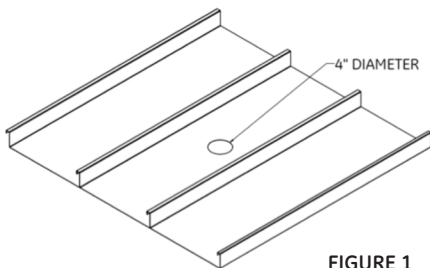

FIGURE 1
1. Drill a 4" open hole in the ceiling to mount fixture. If the size of open hole in the ceiling is less than 4", enlarge the open hole to 4". (See Fig.1)